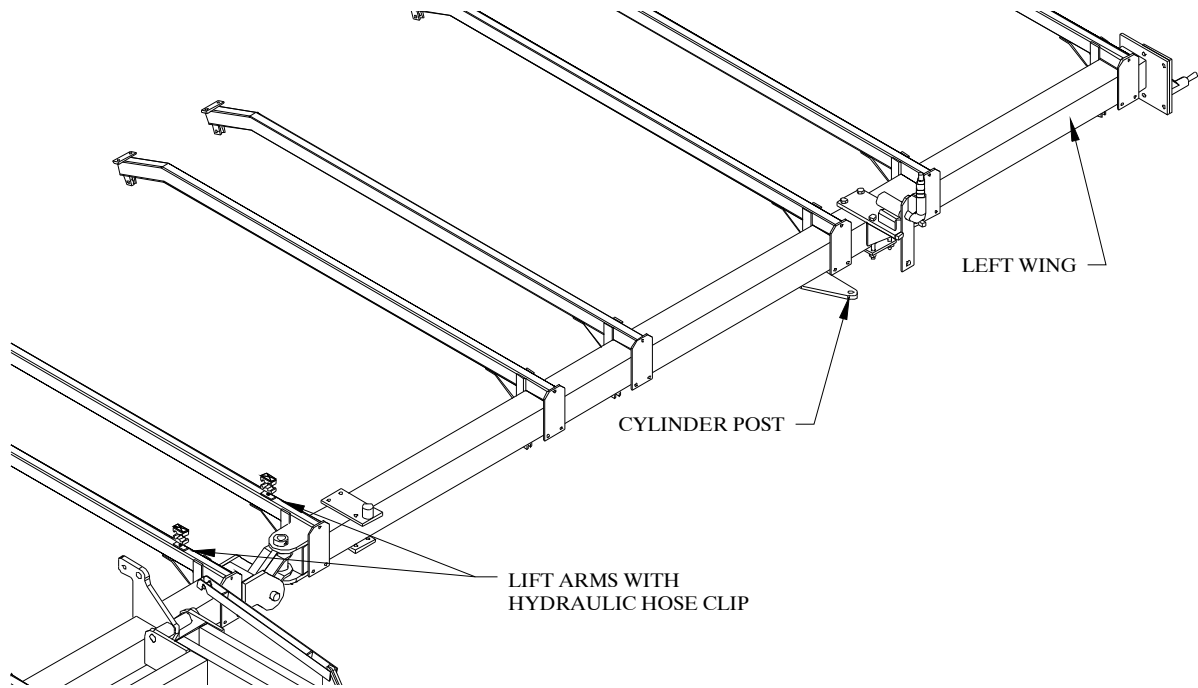

Figure 10
*NOTE: Be sure the wings are orientated correctly. Both wings are marked left hand and right hand and a visual reference can be made by looking at Figure 10.
2. Center a lift arm on each of these marks and secure using two ½" x 11" bolts, lock washers, and hex nuts for each lift arm. Refer to Figure 10.